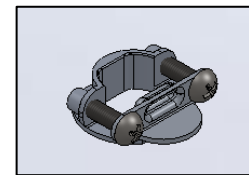

FIG. 8 - STRAIN RELIEF
- b. STRAIN RELIEF (as shown in FIG. 8)